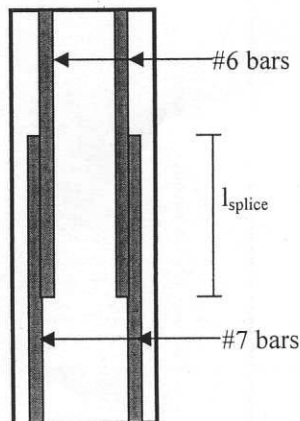

Fig.9
- (b) If # 6 bars are to be spliced to # 7 bars, and if the bars are confined by a closely spaced spiral (Fig. 9), what is the minimum required lap length ( $l_{splice}$ ) for the splice? (Spirals are not shown in figure and assume the column is subjected to a compressive force).